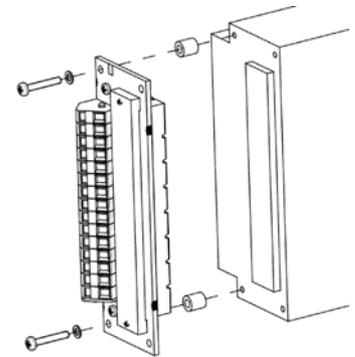

Fig. 25
- Cage clamp adapter HZZ00144-G; see fig. 25